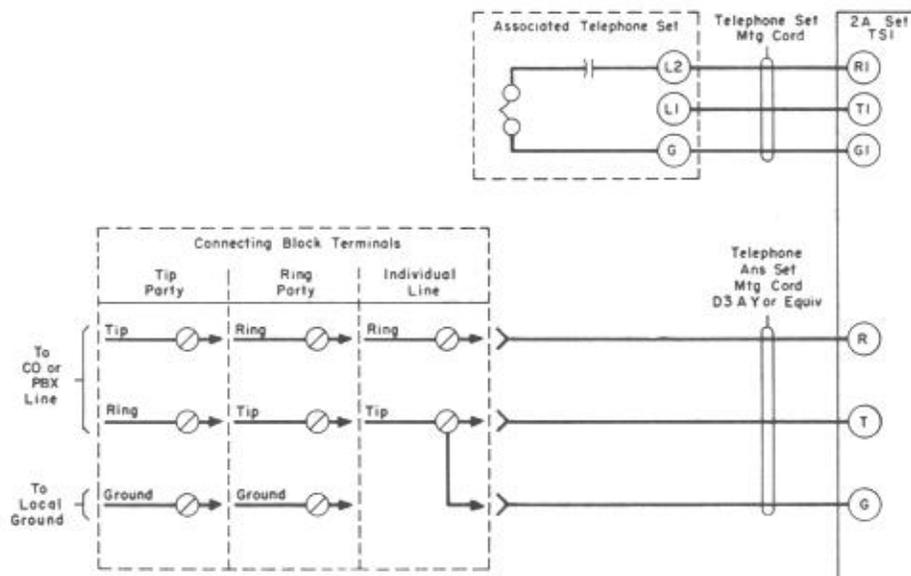

Fig. 16—Station Connections for Individual Line, 2-party Selective, Flat or Message Rate, Manual or Dial
8.04 The 2A telephone answering set should be connected as shown in Fig. 16, 17, and 18.